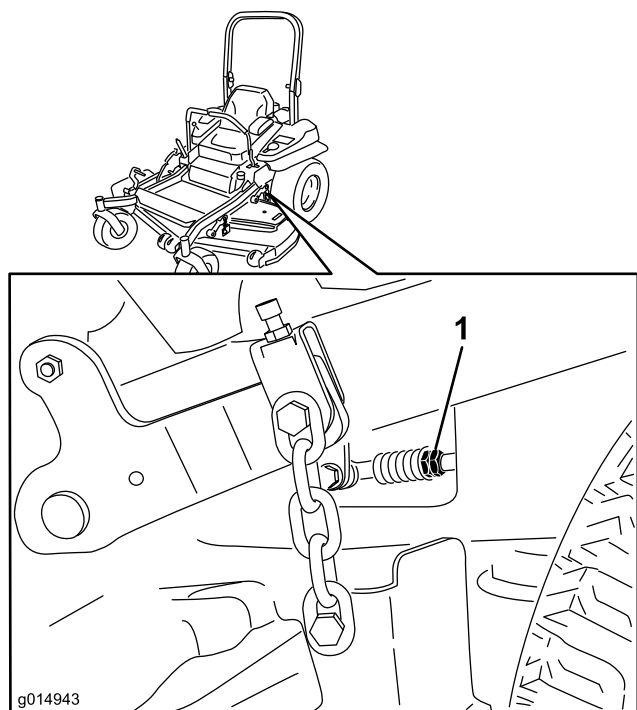

Figure 80
7. Bring the motion control levers into the neutral position. Adjust pump control rod lengths by rotating the double nuts on the rod in the appropriate direction until the wheels slightly creep in reverse (Figure 80). Move the motion control levers to the reverse position and while applying slight pressure to the lever allow the reverse indicator springs to bring the levers back to neutral. The wheels must stop turning or slightly creep in reverse.